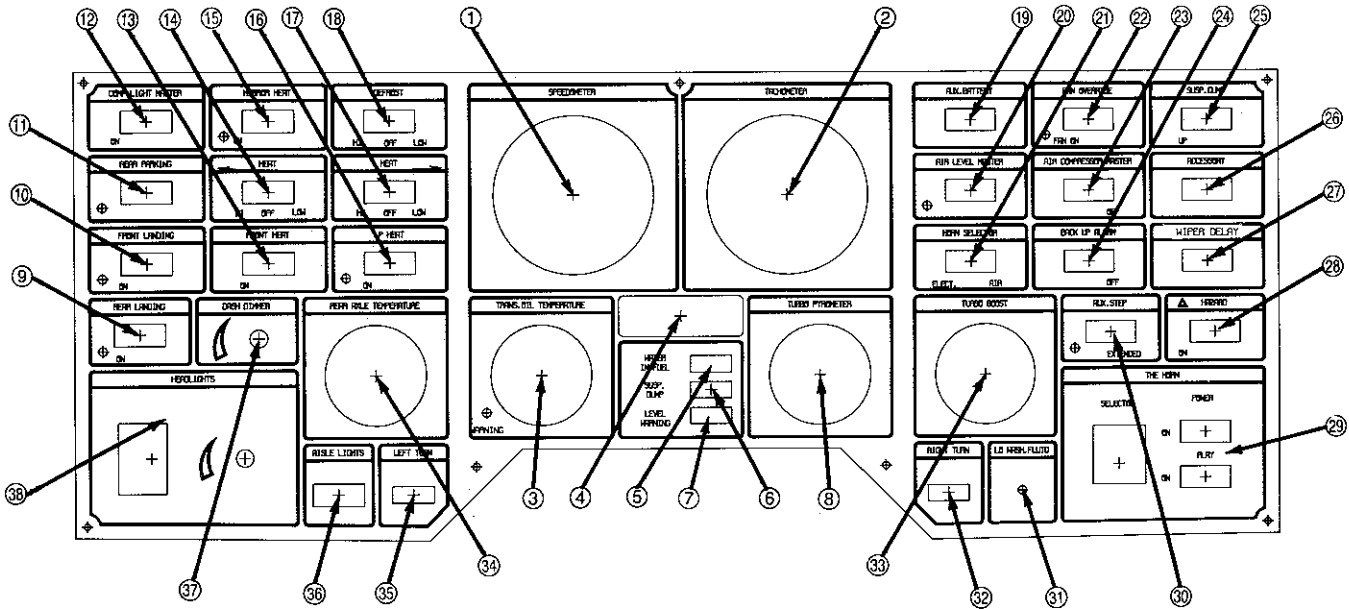

Figure 2-4. Lower Dash Panel
Lower Dash Panel (See Fig. 2-4)
②⑦ **WIPER DELAY** — Knob adjusts wiper speed from 2 to 20 sweeps per minute when intermittent operation is selected at steering column switch lever.
②⑧ **HAZARD** Switch — This switch turns on the emergency flashers. When switch is used both turn signals will flash in unison.
②⑨ **THE HORN**, Figure 2-4 — This corner of the dash has 3 different switches for use with the musical horn.